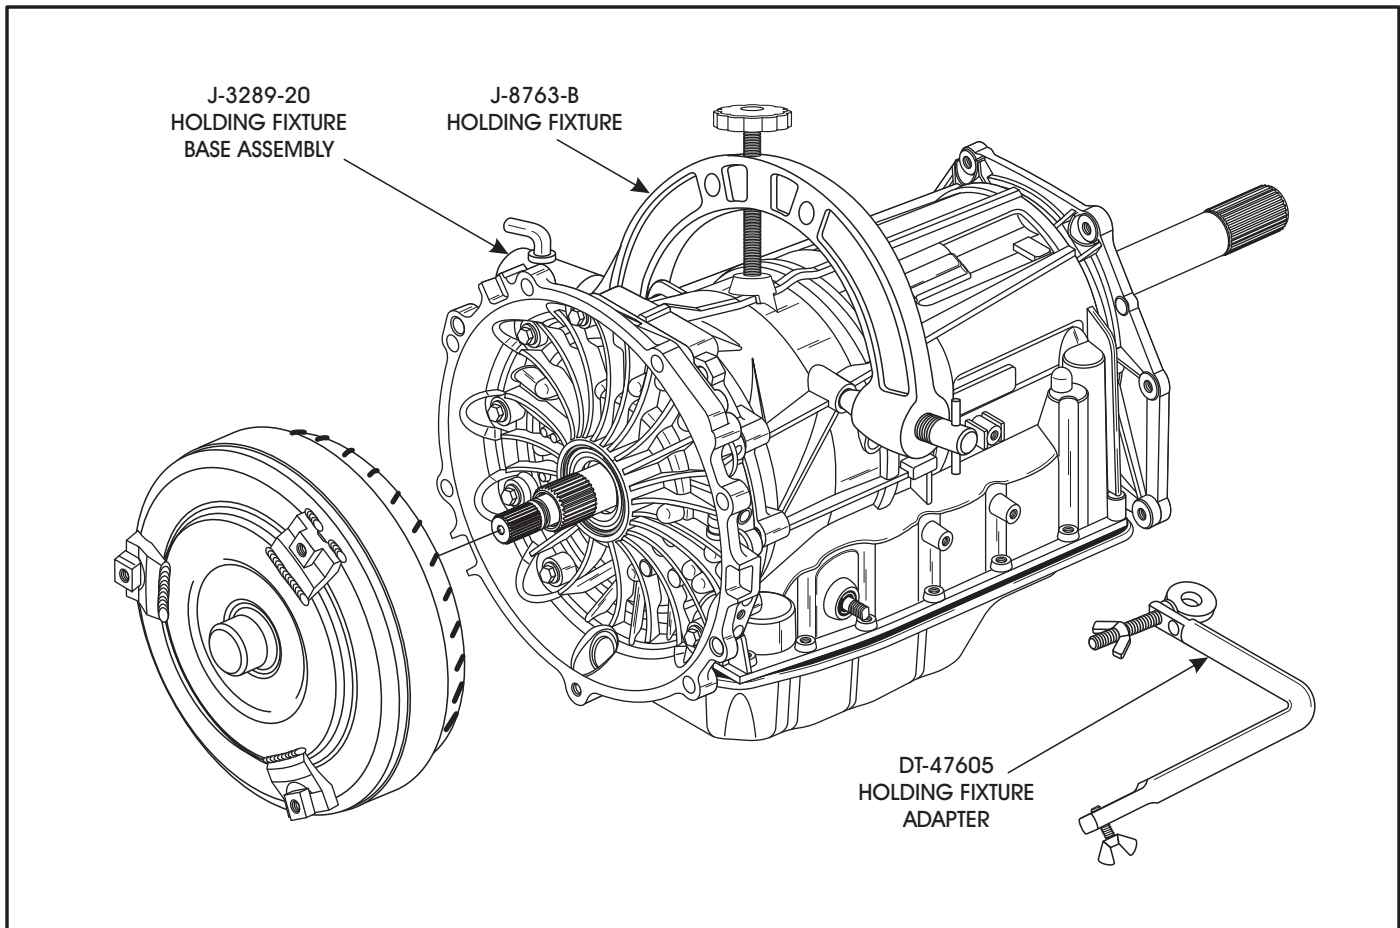
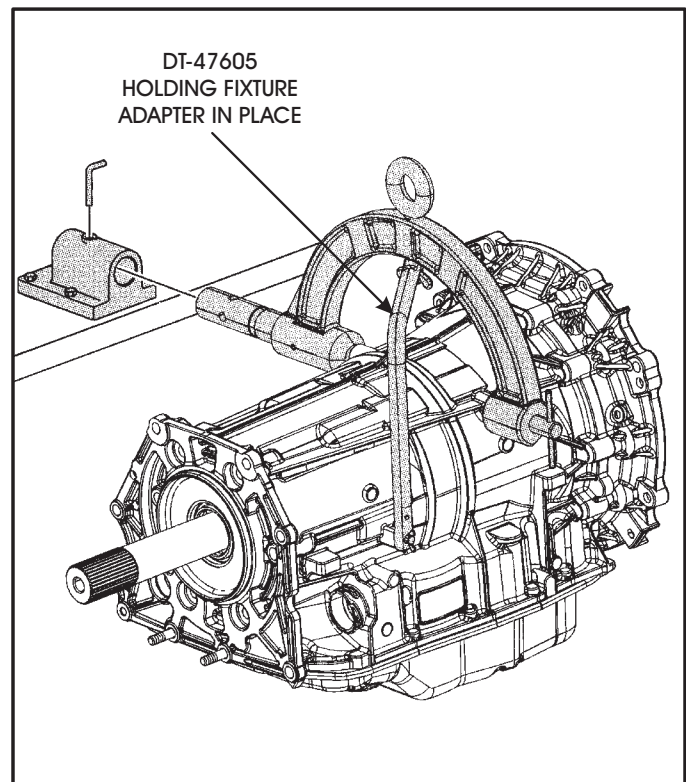

Figure 37
Figure 38
1. Remove the torque converter, as shown in Figure 37.
2. Install holding fixture J-8763-B, as shown in Figure 37, using fixture adapter DT-47605 if necessary and is shown in place in Figure 38.